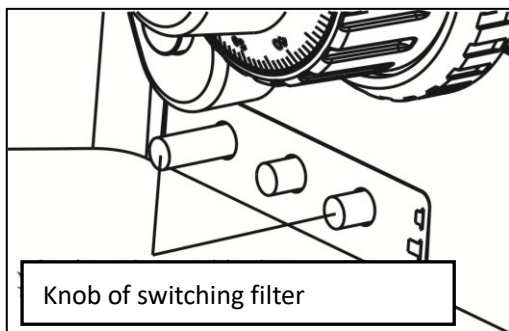

Fig 13
3-11Using Frosted Sheet(figure 13)
As shown in figure 13, the state of using filter is push in the rod. When push out the rod, filter is in an empty state. LBD is a filter of increasing color temperature. ND25 is a filter of 25% light transmittance. ND6 is a filter of 6% light transmittance.
As shown in fig13, converter reserves a slot to hold the extensional function board. The ordinary light field board has been inset the slot before The lens of microscope leaving factory. If using other extensional function board, only need to tear down and loosen ②, pull out the standard light field board, then inset the extensional function board into the slot and freeze the bolt of ②.